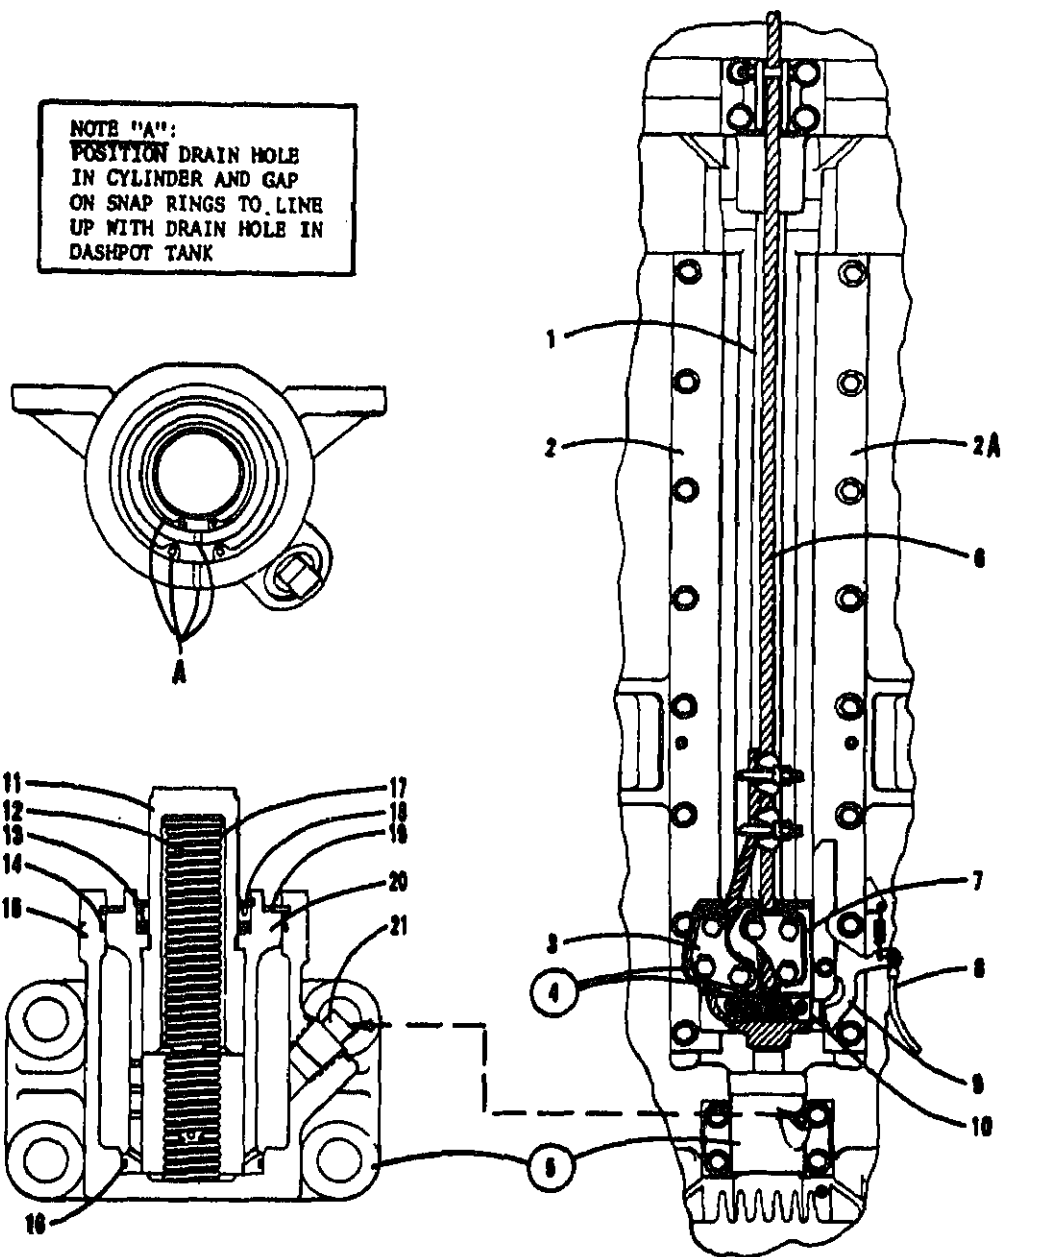

FIG. 11-5
The starting device, Fig. 11-5, consists of a push rod, latch block assembly, wire rope assembly, latch block retainers, release lever, pull rope and dash pot assembly. The push rod is designed to engage with the large diameter of the ram for lifting the ram, and for starting the Hammer.
- (a) Remove latch block covers Fig. 11-5.
- (c) Dashpot incorrectly assembled. See Fig. 11-5.
- (b) Remove plug, Fig. 11-5, and drain fluid from dash pot.
NOTE: When reassembling position drain hole in cylinder and gap on snap rings to line up with drain hole in dash pot tank. Refer to position "A" Fig. 11-5.